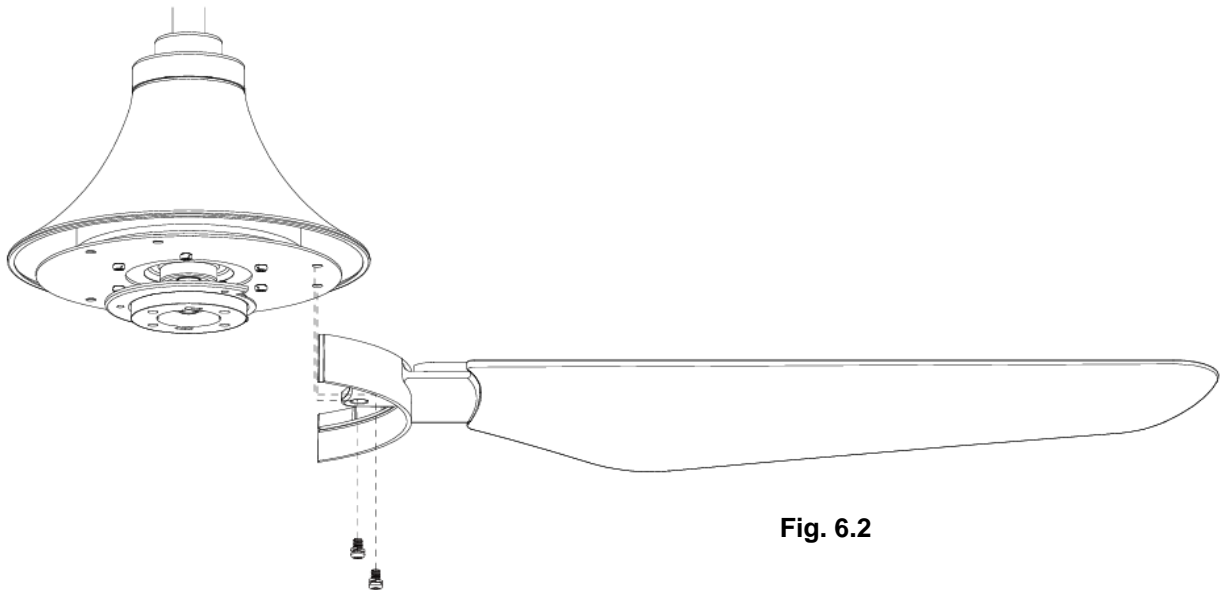

Fig. 6.2
2. Install the fan blade assembly to the fan assembly by the 2 screws and spring washer set. (Fig. 6.2)